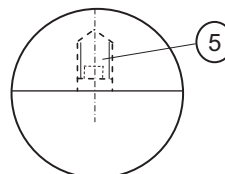

Abb.4
- ⑤ Screw the threaded pin M4 as far as the stop (fig.4)
- ⑥ Mount the cover if necessary.